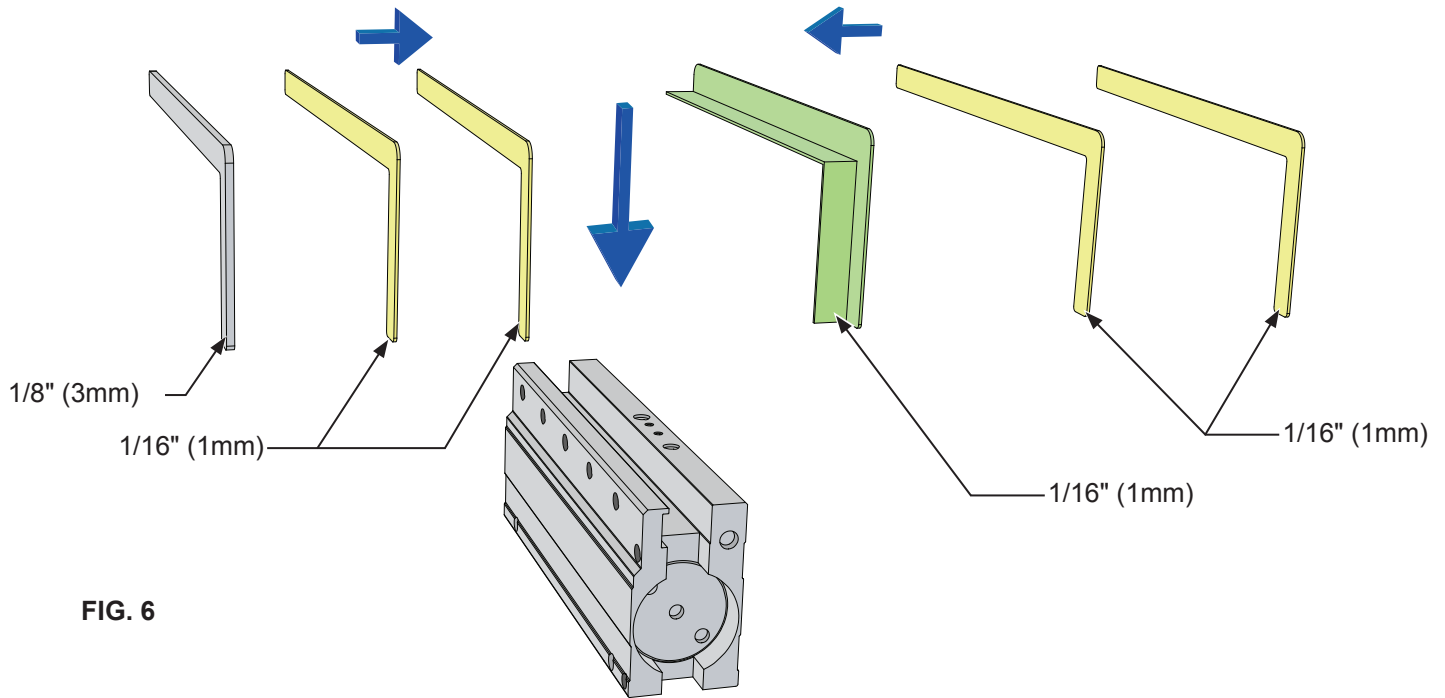

FIG. 6
4. Insert the glass gaskets as shown. (Fig. 6)